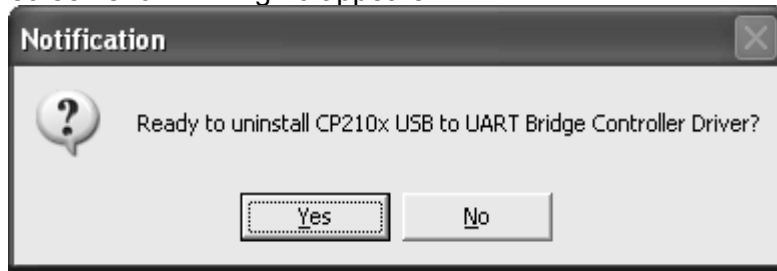

Fig. 76 Confirmation of uninstallation
(3) The notification screen shown in Fig.76 appears.